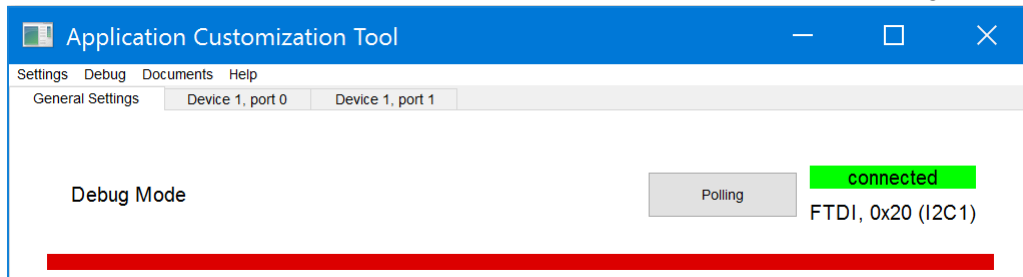

Figure 2-18. Sample Connection Status and Method in Debug Mode
4. Verify that the tool has successfully connected to the device when the connection status in the top right corner says 'connected' and is highlighted in green with the connection method listed IN Figure 2-18.